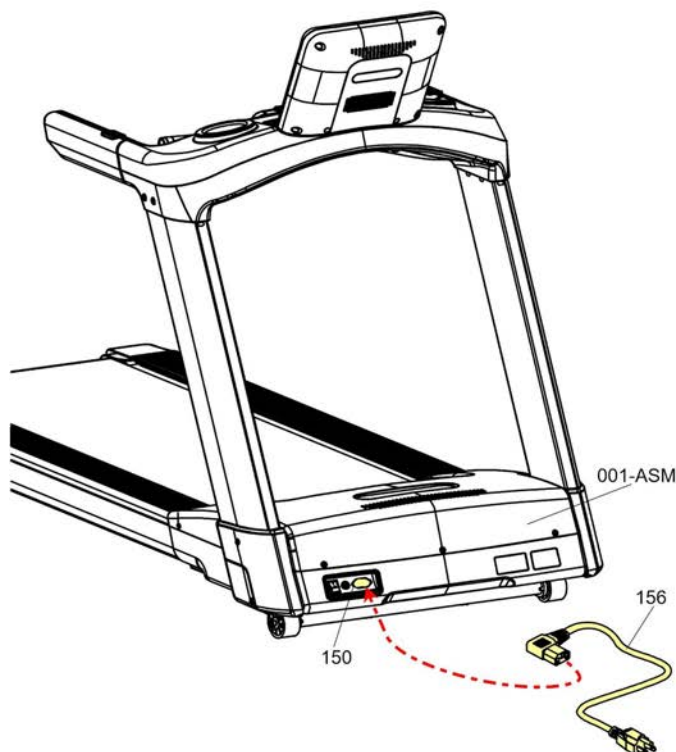

Fig. 20
- a. Confirm the Power Cord (156) is attached to the Base Assembly (001-ASM). See CAD image to left.
- b. This should be secured from the Locking Screw-in Clip (144) to the AC Socket/Input Power (150). See **Fig. 20** below using the pre-installed hardware:
- i. Screw M4 x 12mm L (095)